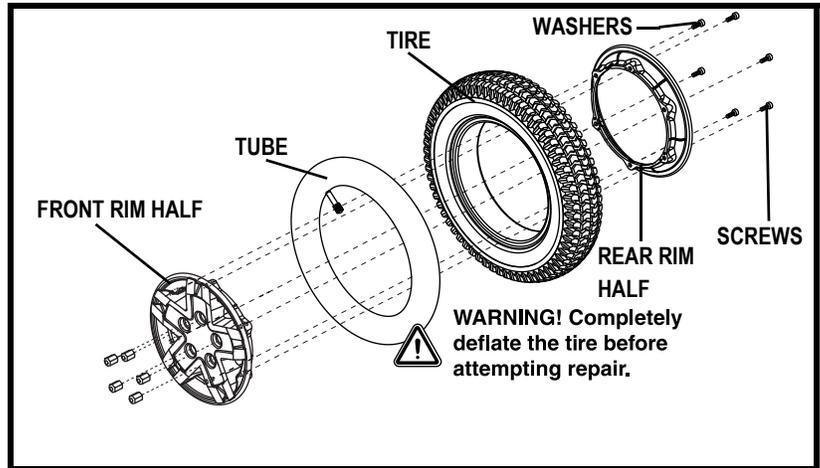

Figure 25. Lightning Drive Wheel Disassembled
6. Remove the screws and separate the front and rear rim. See figure 25.
10. Reinstall the five (5) lug nuts onto the wheel hub and tighten.